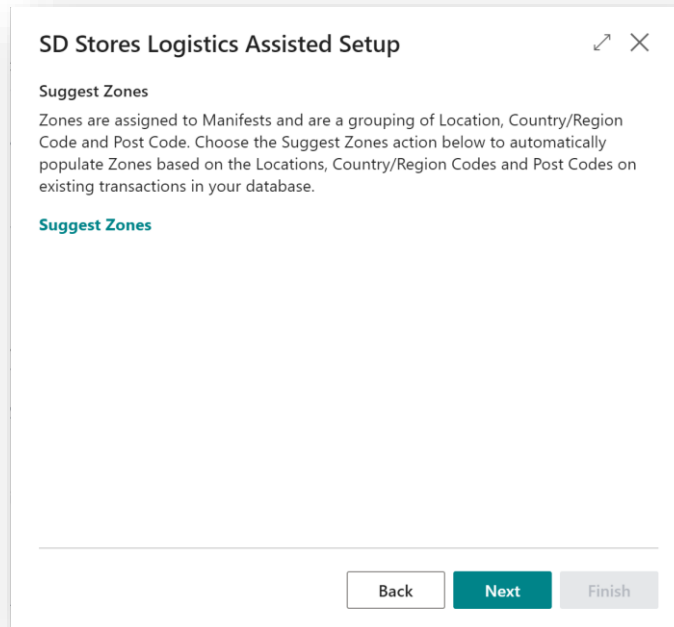

Figure 6-5
5. Choose the **Suggest Zones** action to populate the Zones that will be used in SD Stores Logistics (Figure 6-5).